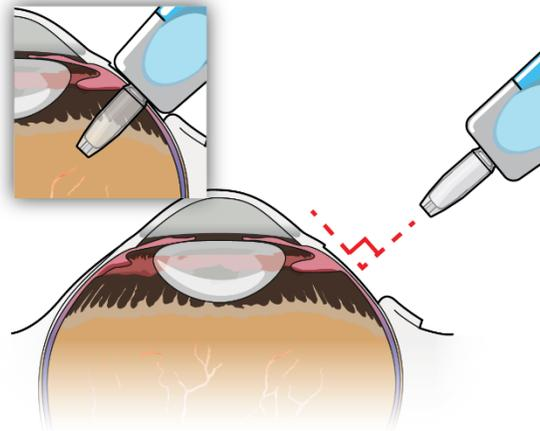

Figure 9
- During removal, continue to maintain perpendicular orientation of the implant relative to the globe (Figure 9).